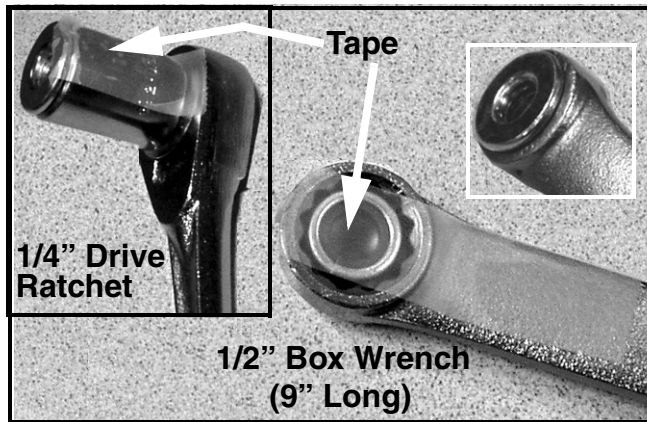

FIGURE 11
28. Using a long (9") 1/2" box wrench, place a new Hex Flange Lock Nut, Item 3, in the box end and secure with tape as shown in Figure 11. Guide the wrench, with the nut, up inside the deck and align with the rear upper handle bracket mounting hole in the deck. Hand start the bolt/washer assembly onto the nut. Tighten hardware.
29. Configure a 1/2" socket and small ratchet with a new Hex Flange Lock Nut, Item 3, as shown in Figure 11. Guide the ratchet, with the nut, up inside the deck and align with the forward upper handle bracket mounting hole in the deck. Hand start the bolt/washer assembly onto the nut. Tighten hardware.